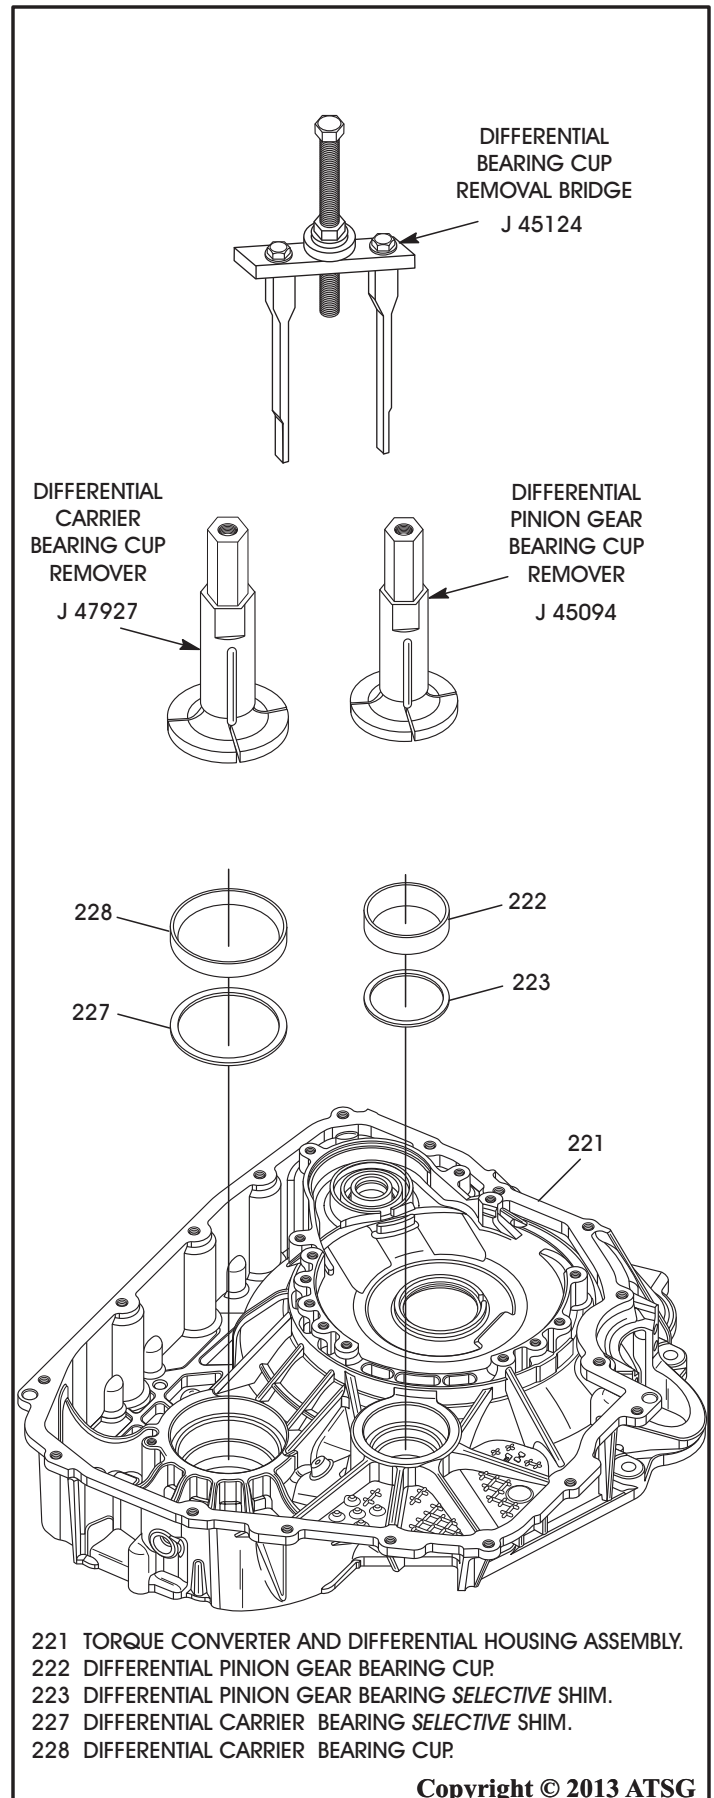

Figure 76
74. If bearing service is required, remove the bearing cups and the two selective shims from the torque converter housing using the removal tools that are shown in Figure 76.